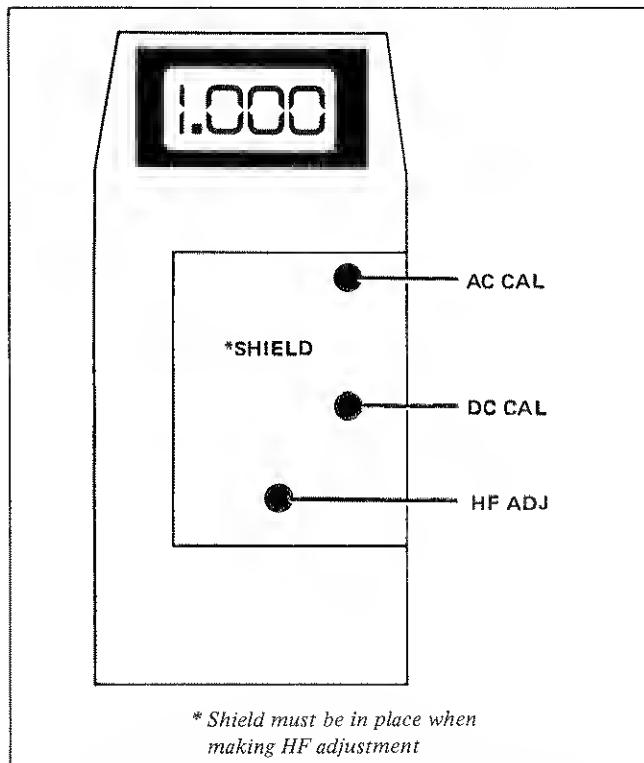

Figure 4-1. Calibration Adjustment Locations
- f. All adjustments necessary to complete the calibration procedure are now accessible (see Figure 4-1).